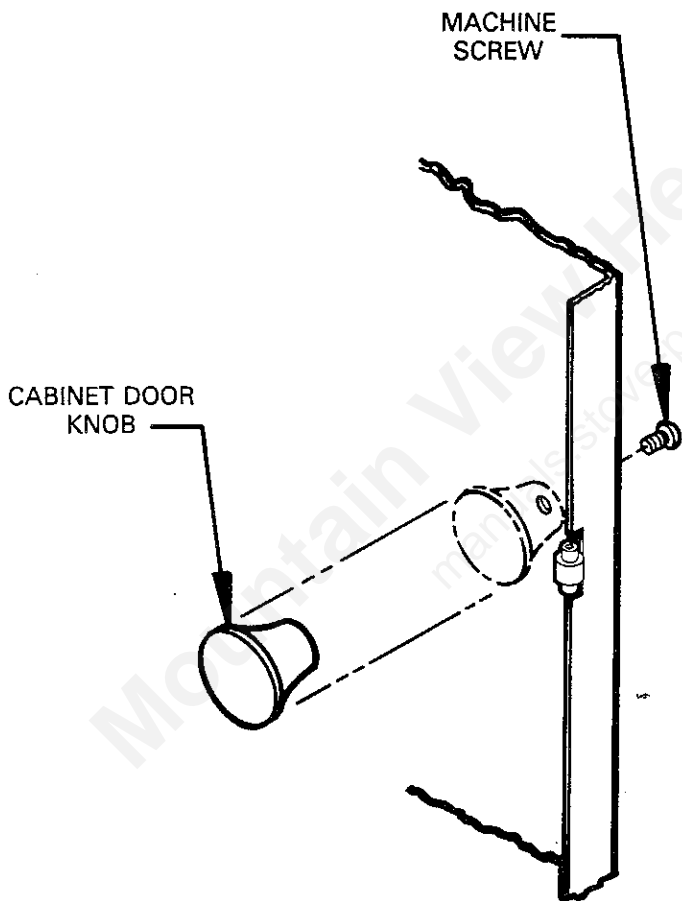

FIG. 12
1. Remove the machine screw and door knob (Fig. 12).